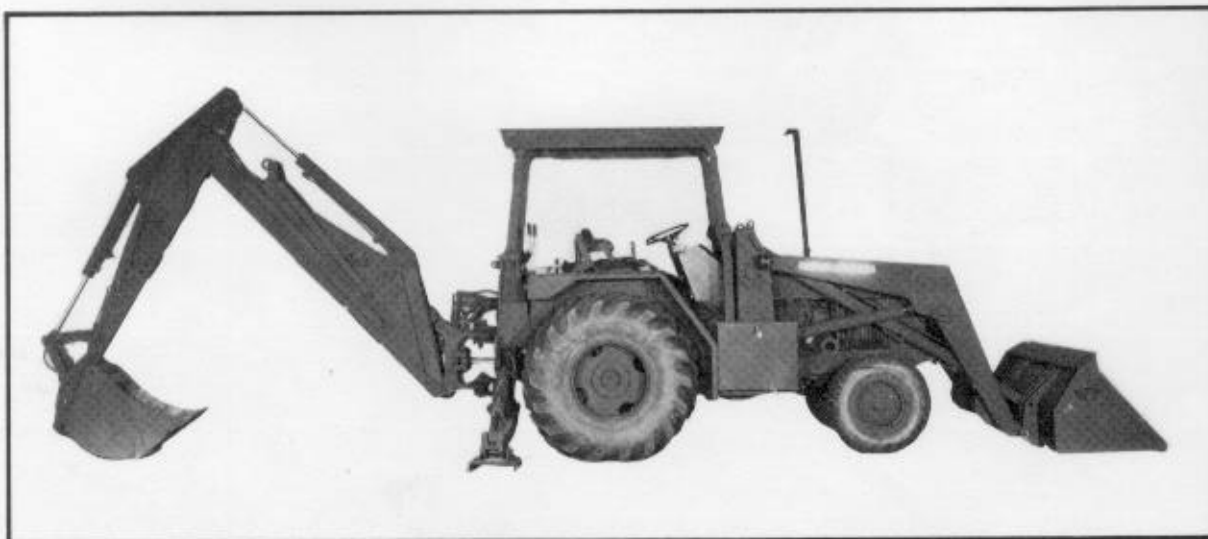

Figure 1-1. JD 410 tractor.
a. The JD 410 tractor (figure 1-1) weighs 15,670 pounds. It is 437 inches long when fully extended, 293 inches long in its travel position, and 336 inches long when prepared for airdrop. The tractor is 126 inches wide (reducible to 95 inches) and 104 inches high (reducible to 75 inches).